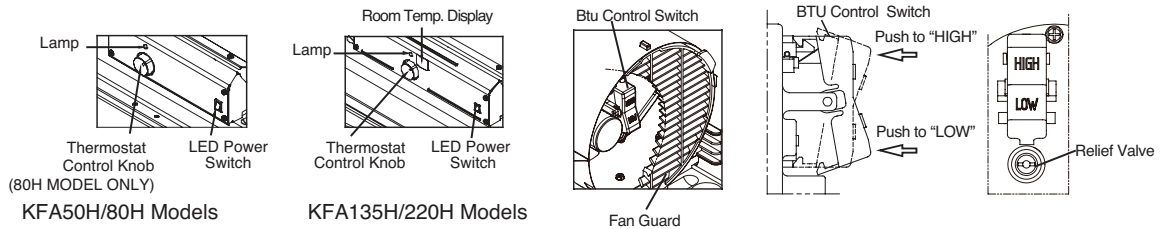

Figure 8. Controls for All Models
- 4) Position the Handles on top of fuel tank flange. Insert screws through handles, fuel tank flange and wheel support frames as shown in Figure 8 and attach nut finger tight after each screw is inserted.
5. Push “BTU control Switch” to “High” level. (See Figure 8.) (KFA220H Model Only)